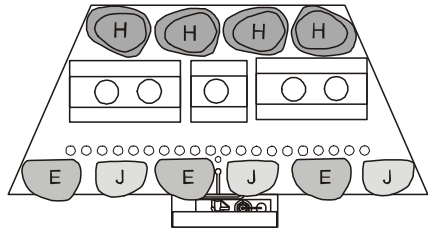

Figure 11
1. Unpack the **aeration tubes**, pebbles **H**, **E & J** and place them on the tray as shown in **Figure 11** ensuring that the port holes and the cross ignition slot remain clear. Note that the aeration tubes should be placed on their back, with the legs facing up ensuring that none of the port holes are blocked.